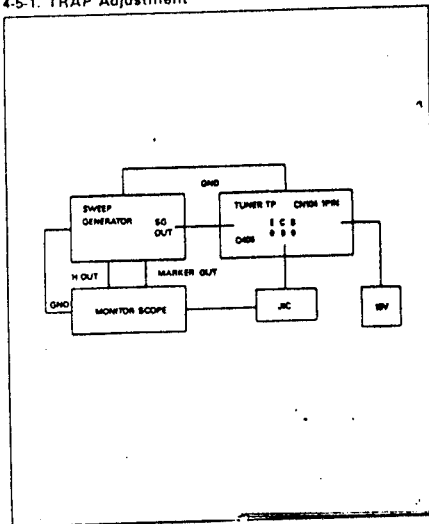

Fig. 12 Composition for TRAP Adjustment.
- 3) Connect the Sweep Generator Output to tuner TP within the Tuner unit. (Fig. 12)